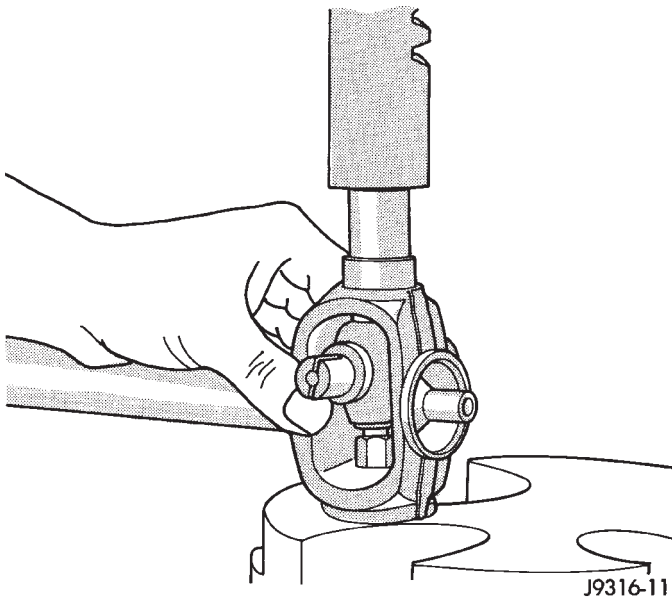

Fig. 29 Press In Bearing Assembly
(3) Press the bearing assembly in place and install a snap ring (Fig. 29).